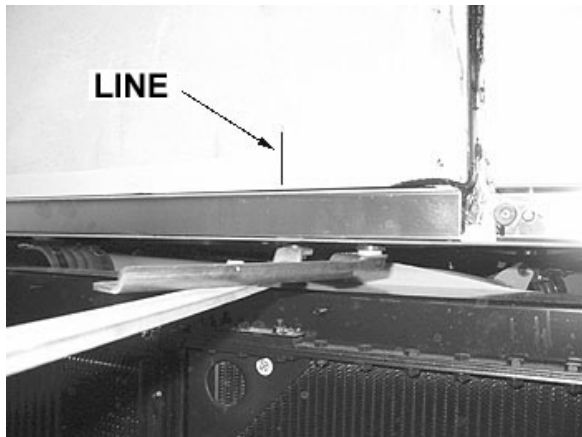

FIGURE 71: REFERENCE LINE
2. Using a rubber mallet, adjust the lower part of pantograph arm in order to get 4 ± 1 mm between lateral panel and engine door (Refer to Figure 71 and Figure 72).